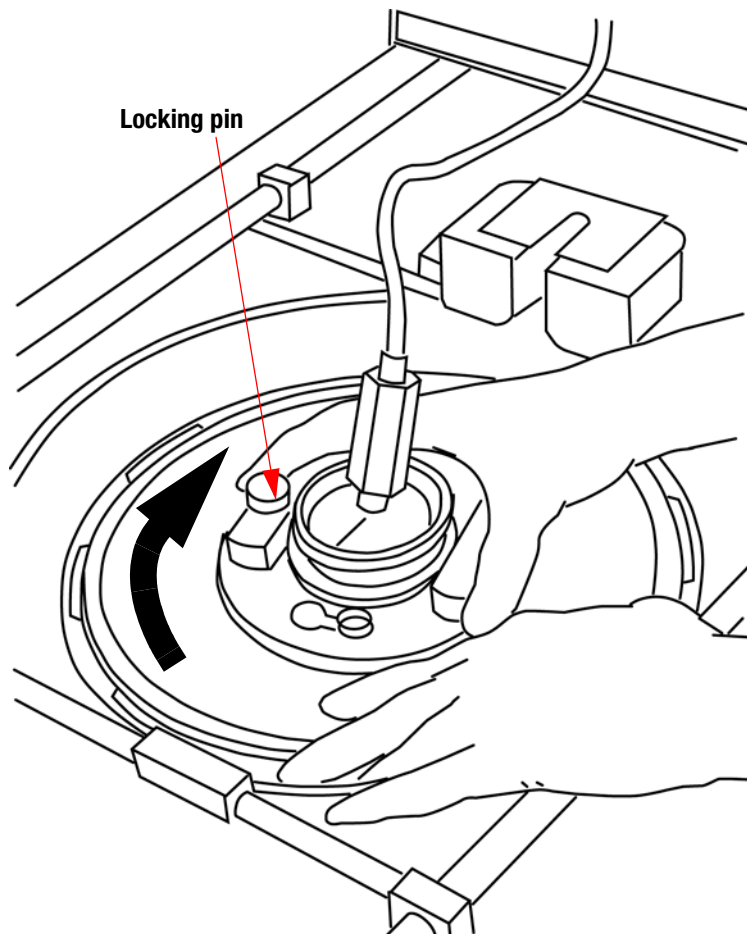

Figure 6-10: Installing the centrifuge bowl cover
- 24 Place the centrifuge bowl cover on the two corresponding alignment studs. Align the centrifuge bowl cover tabs with the centrifuge bowl slots. While holding the centrifuge bowl to prevent it from turning, push down on the centrifuge bowl cover and rotate it clockwise until the locking pin falls into place (Figure 6-10).